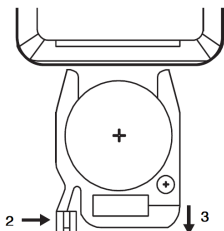

Figure 2
2. If the battery in the remote control needs to be replaced, refer to Figure 2, the first step is to push out the lock to the arrow 2, the second step is to pull out the cover to the direction of the arrow 3, you can replace the battery, after replacing the battery, push the cover into the remote control in the opposite direction of the arrow 3, until the arrow 2 locks;